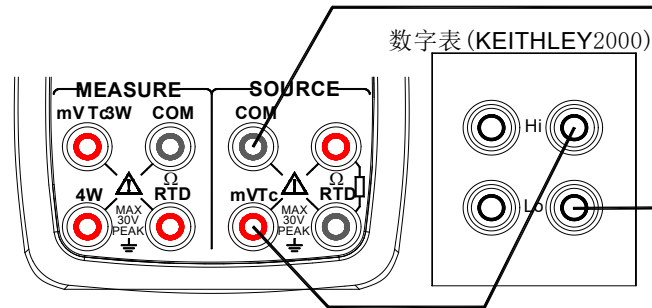

Figure 14 Adjusting voltage source
Step 1: Using the (mV) key, select DC voltage function. Connect the lead cables for measurement to the standard digital meter as shown in Figure 14.